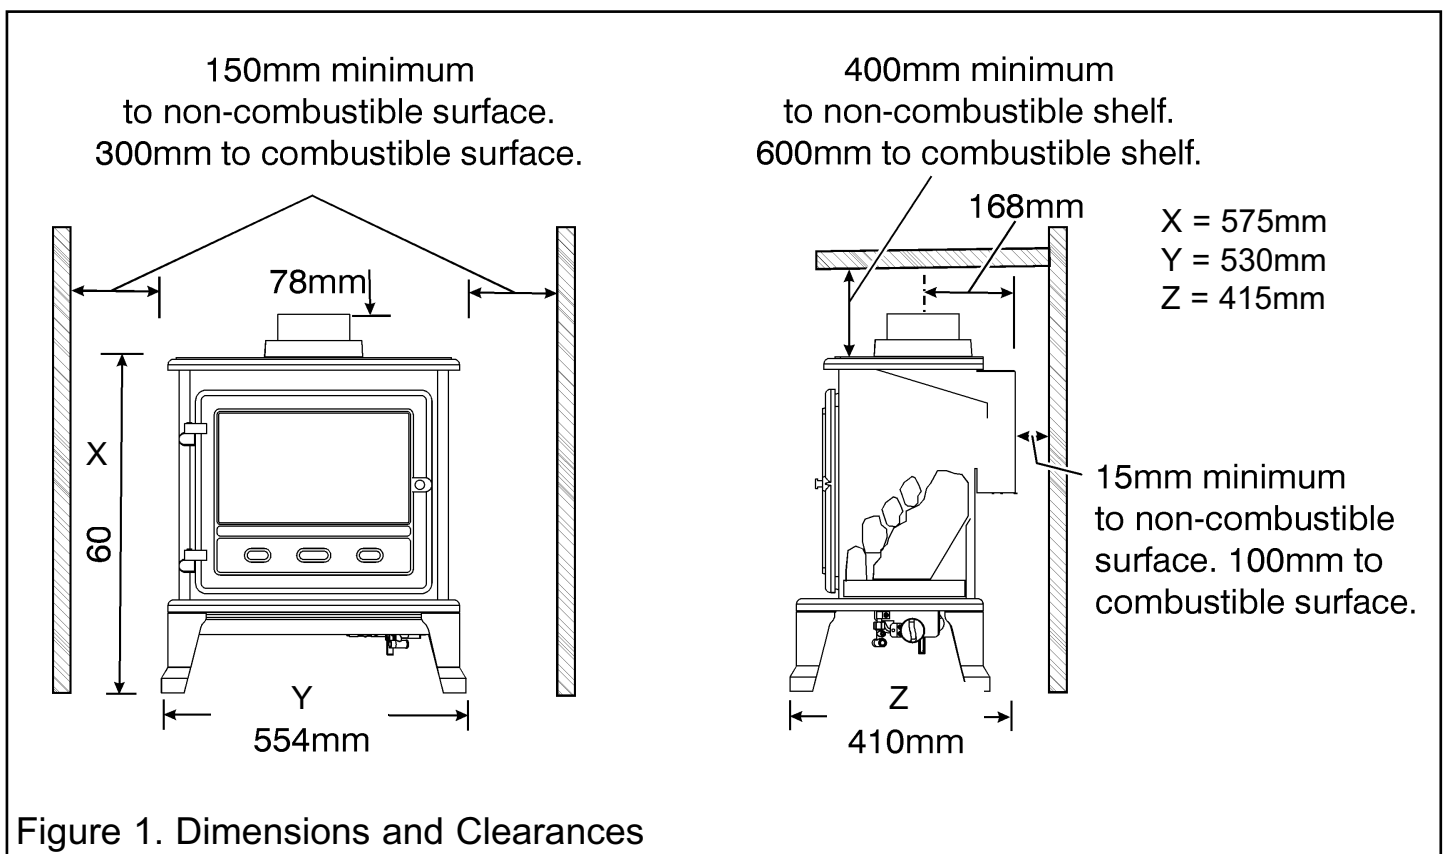

Figure 1. Dimensions and Clearances
**Do** have the gas stove installed by a competent person i.e. Gas Safe Registered Installer (UK) or a Registered Gas Installer (Outside of UK). In the United Kingdom, installation must be in accordance with the latest edition of the Gas Safety (installation & use) Regulations. In the Republic of Ireland, installation must be in accordance with all national and local regulations in force.
**Do** provide the minimum clearances shown in figure 1.